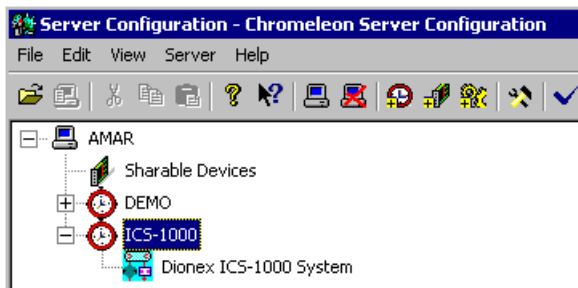

Figure B-12. Server Configuration with ICS-1000 Timebase
10. Click the + icon next to the server name to expand the folder. The timebase you created is displayed (see Figure B-12).